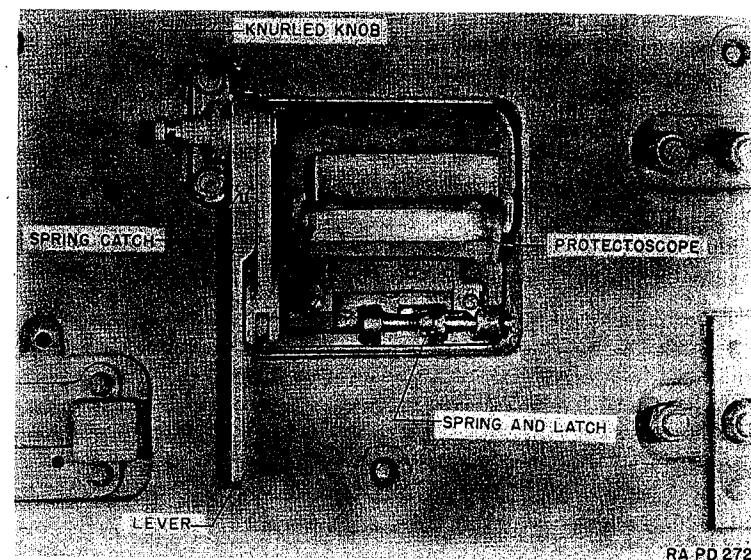

Figure 73—Pistol Port with Protectoscope
(1) **Protectoscope.** The protectoscope mounted in the pistol port door protects the eye of the user (Fig. 73). The two
a. **Description.** If the operating mechanism or the cover is defective, notify the Ordnance personnel. To operate the pistol port door, proceed as follows (See Fig. 73):
- (1) Move lever locking spring catch downward.
- (2) Raise lever to horizontal position, until knurled knob drops in notch in lever.
- (3) Unlatch cover bolt.
- (4) Pull down on lever until knurled knob drops in place again, locking the cover in the open position.